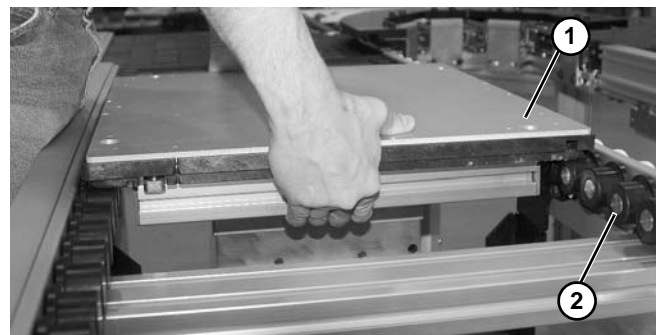

Figure 78
1. Adjust stroke so that pallet (**Figure 78, item 1**) mates correctly with rollers (**Figure 78, item 2**) and remaining conveyor components.